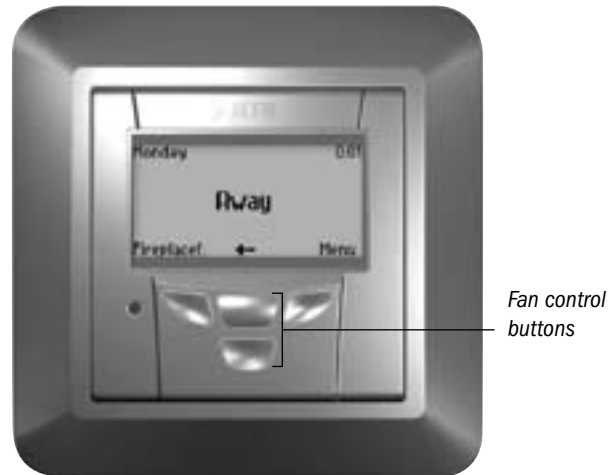

Figure 1.
1. The fan control buttons (+ and -) on the control panel (see Figure 1) are used to switch on the unit and to control the air exchange rate. The proper air exchange rate in normal use is achieved with the Home status. Before switching on the unit, check that no condensation water has accumulated in the unit, for example, during storage.